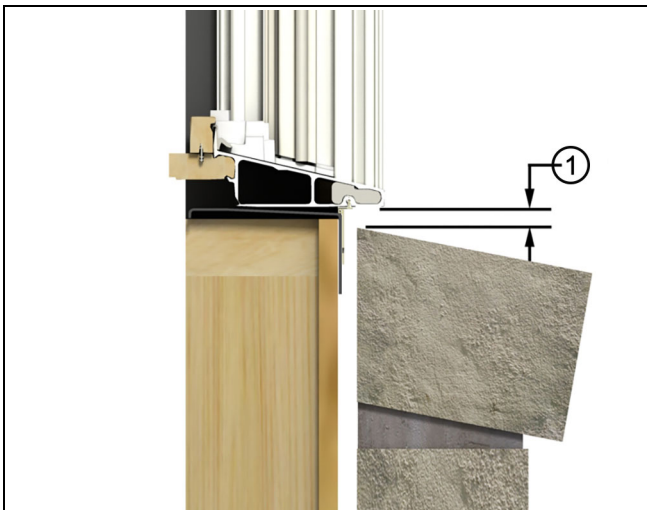

Figure 5 Avoid brick bind, maintain 1/2" gap
NOTE: On standard wood frame construction with brick veneer, make sure there is at least 1/2" (13) between bottom of window sill (or eventual placement of the window) and the top row of brick to avoid "brick bind". See Figure 5.